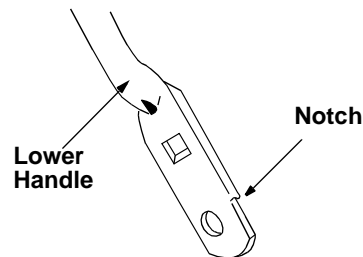

FIGURE 12
- Turn the lower handle around so the notch on the bottom of the lower handle is facing forward as shown in Figure 12. Reassemble, placing the bottom holes in the handle over the weld pins in the handle mounting bracket.